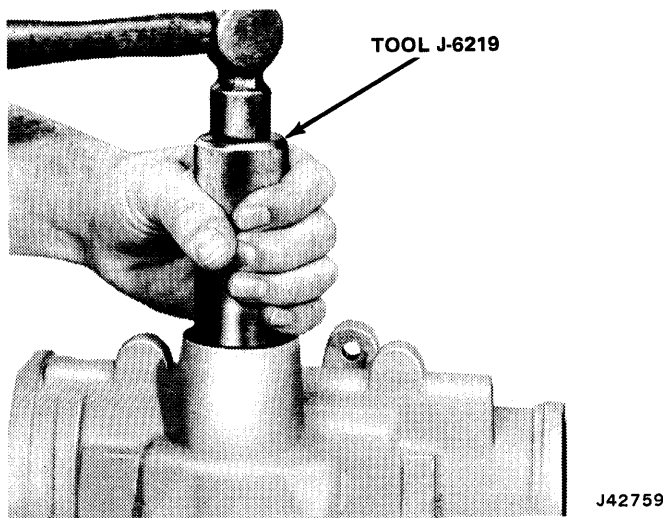

Fig. 11-87 Installing Pitman Shaft Seals
(1) Install needle bearing using Tool J-6657. Install bearing from inside of housing. Be sure bearing identification end faces inside of gear and that tool is placed against identification end of bearing during installation. Press bearing into housing until it clears shoulder in gear housing by 0.030 inch.
(2) Install single lip seal and backup washer using Tool J-6219. Install seal and washer far enough into housing to provide clearance for double lip seal and backup washer (Fig. 11-87). Be sure seal does not bottom in counterbore and that seal lip faces interior of housing.
(3) Install double lip seal and backup washer using Tool J-6219. Be sure seal is installed with lip facing interior of housing.
(4) Install retaining ring.